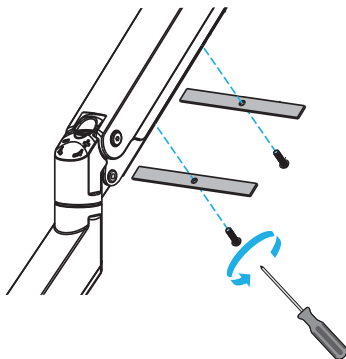

Figure 25
6. (Optional) If the **Cables** or **Cable Bundles** are too large to be routed under the **Cable Management Covers**, use a **Phillips Head Screwdriver** to install the **M5x8mm Screws** (x 2) and secure the **Hook and Loop (Spring Arm)** onto the **Spring Arm**. The **Cable Management Covers** will not be used anymore. (Figure 25. (Figure 25)